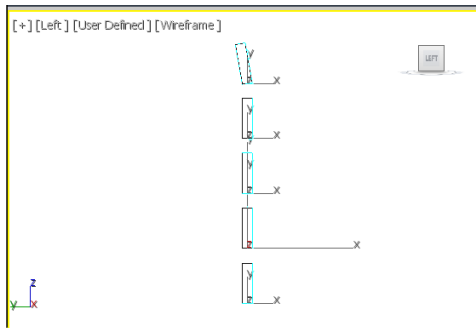

Figure 2-72 All horizontal back supports selected simultaneously
1. Activate the Left viewport and choose the **Select Object** tool. Now, select all the horizontal back supports by dragging a selection box around them, refer to Figure 2-72.